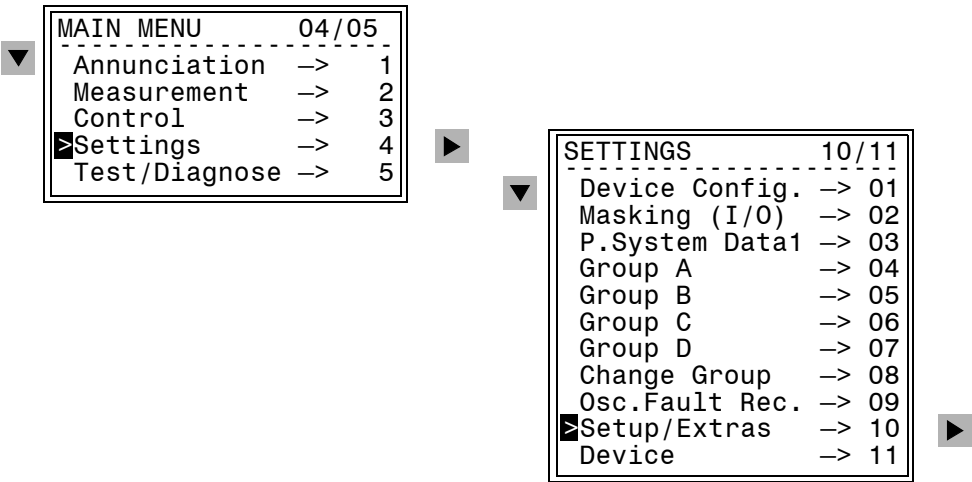

Figure 3-1 Main menu and sub-menu **SETTINGS** — example
- ❑ Using the ▼ key, select the menu item **Settings**, and move to the device settings using the ▶ key. The **SETTINGS** menu appears, as shown in Figure 3-1.